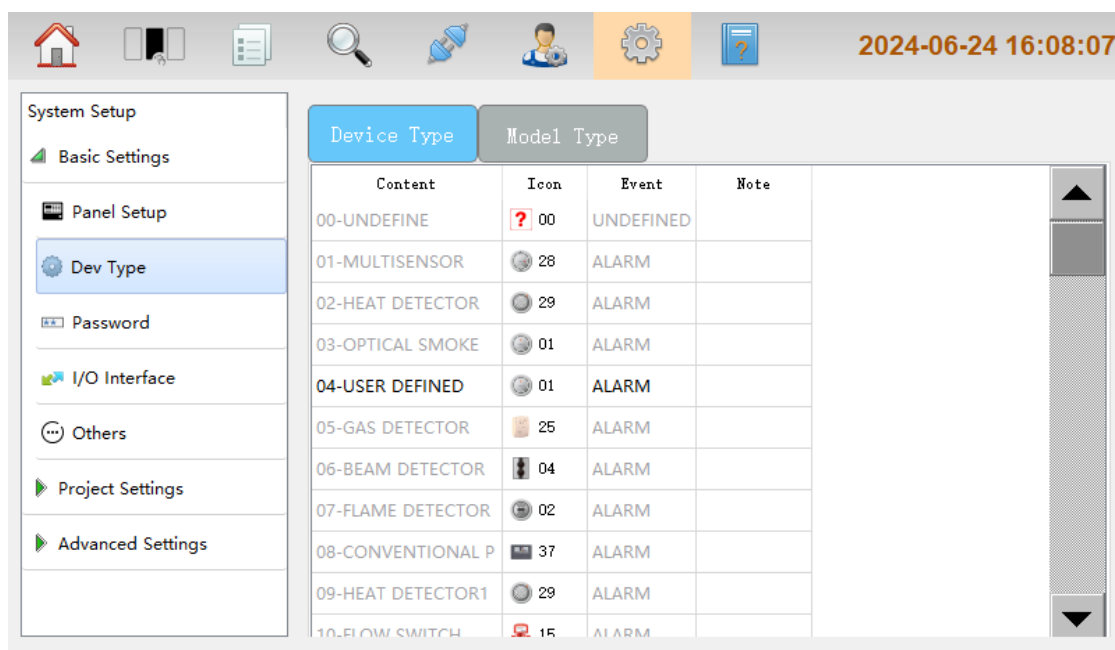
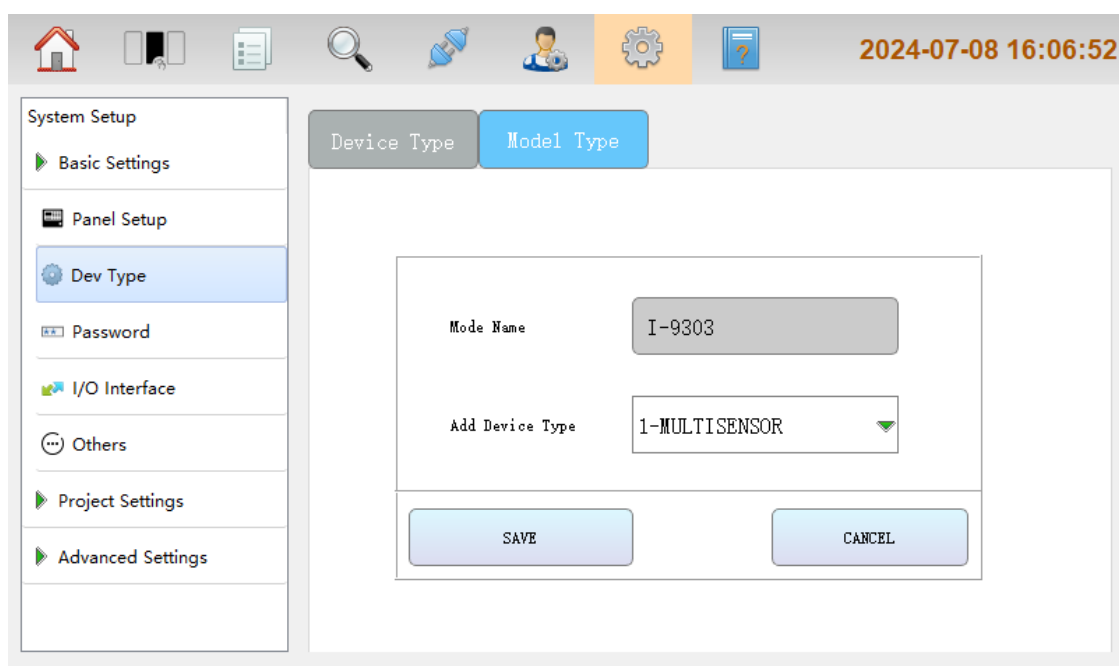

Fig. 4.2.1
Fig. 4.2.3
- **Device Type:** clicking Device Type in Basic Settings menu as shown in Fig. 4.2.1, users can set the name and picture of the device type. Only the highlighted device types can be defined. The gray ones cannot be defined. Clicking Model Type as shown in 4.2.2, users can define the device type of a specific model. For example, DI-9300E Addressable Input Module can be set as FLOW SWITCH, ZONE VALVE etc. Clicking Add, choosing the device type and clicking Save can add device types, as show in Fig. 4.2.3.